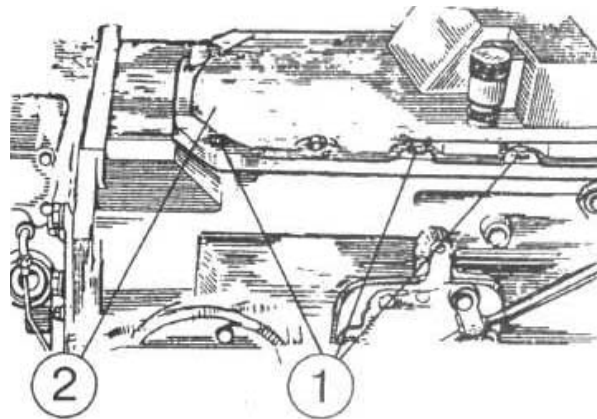

Figure 4.52
a) unscrew bolts 1 (Figure 4.52), remove cover 2 of GB control;